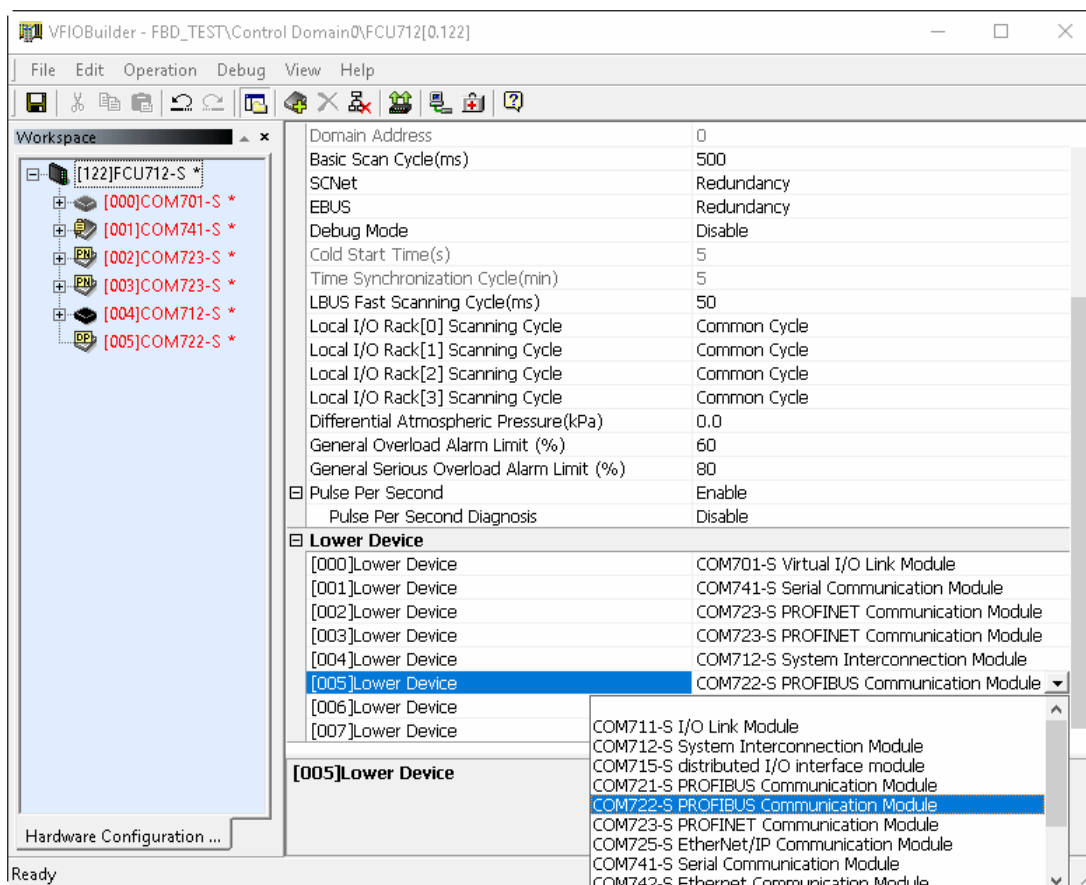

Figure 4-2 Add COM722-S
2. After selecting the controller, add the subordinate device at the subordinate device list at the right view as shown in Figure 4-2.